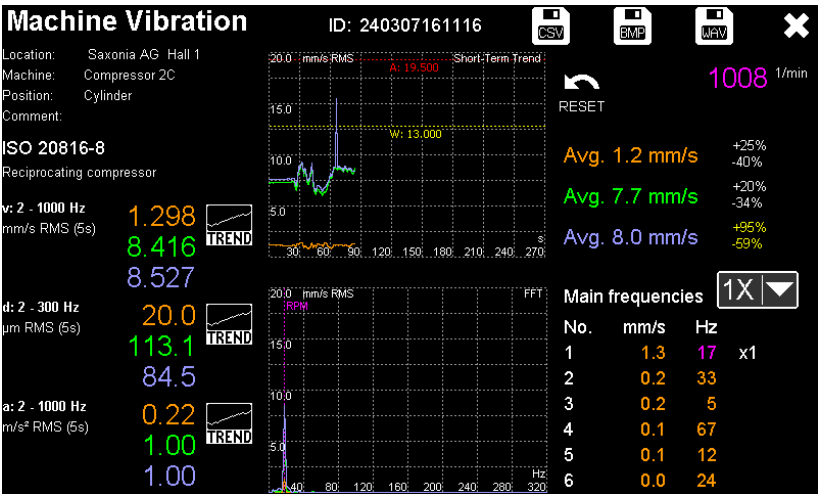

Figure 48: Measurement according to ISO 20816-8
- ➔ For measurements according to ISO 20816-8 with acceleration, velocity and displacement, no phase angles are output for reasons of space (Figure 48).